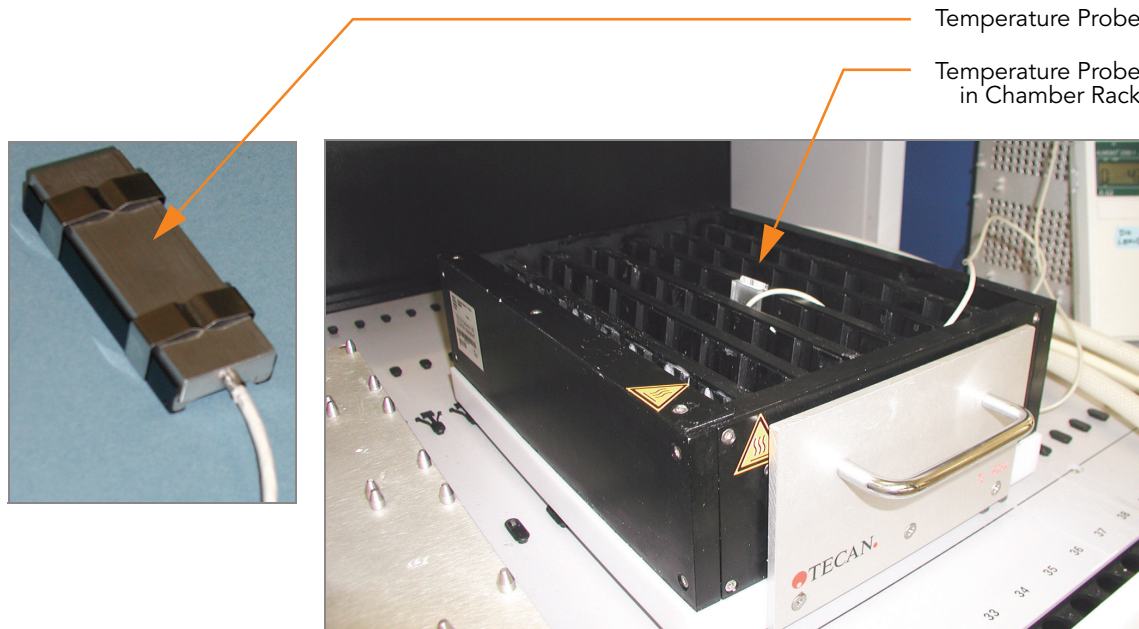

Figure 64 Illumina Temperature Probe in Chamber Rack
- Use the Illumina temperature probe in several locations to ensure that the Chamber Rack is at 44°C (Figure 64).